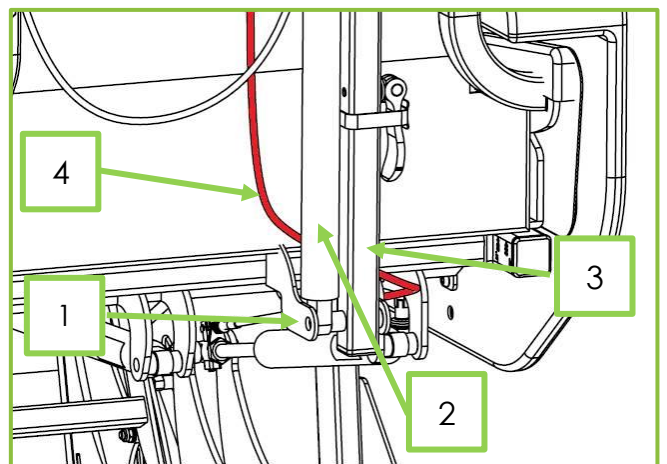

Figure 3
5. Rotate the backrest upward and hold in place. Align the mounting hole at the bottom of the gas strut (Fig 3, Item 2) and the mounting hole at the bottom of the backrest lockout slide (Fig 3, Item 3) with the clevis at the back of the main frame (Fig 3, Item 1). Ensure the Tilt-in Space operating cable (Fig 3, Item 4) is routed between the backrest and the backrest actuator assembly.